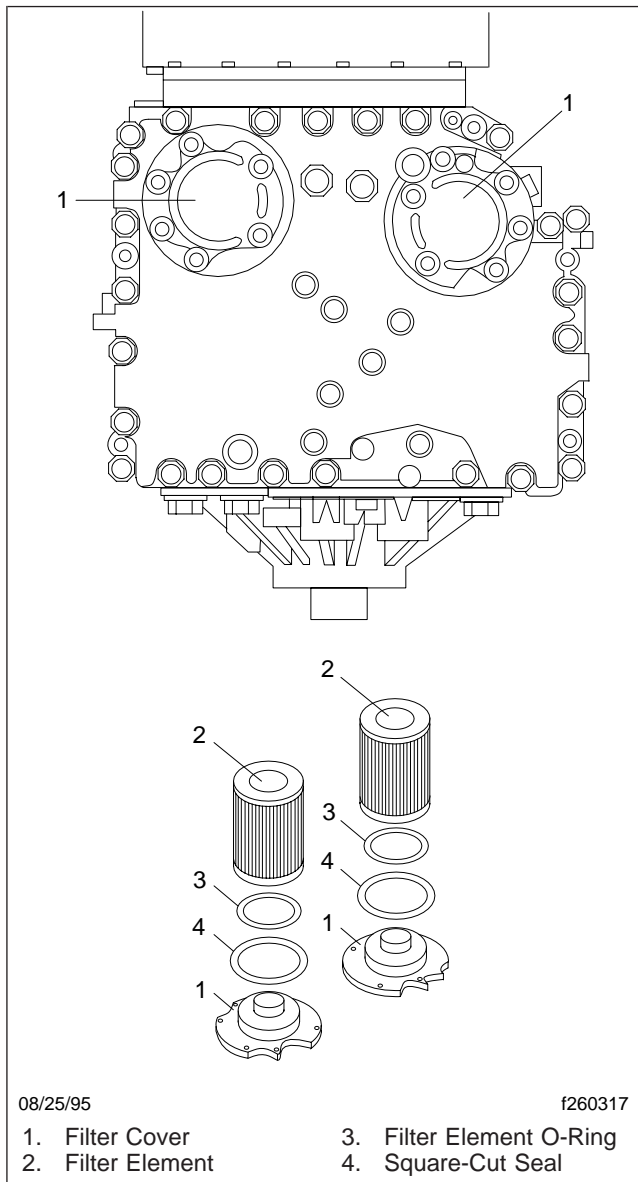

Fig. 6, Allison Transmission Filter Location and Components
5. Remove the filter covers, O-rings, and two square-cut seals from the transmission. See Fig. 6.